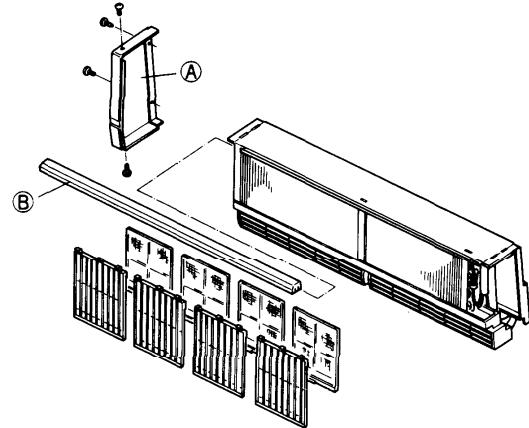

Fig. D-3
- 2) Remove the side cover (A).
- 3) Slide the sash (B) sideways to remove, then remove the air intake grille (with a filter) as shown in Figure D-3.